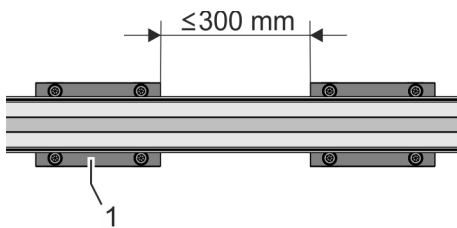

Fig. 19: Positioning clamping bars
2. ➤ Ensure that a distance of 300 mm between the clamping bars (Fig. 19/1) is not exceeded at maximum load.